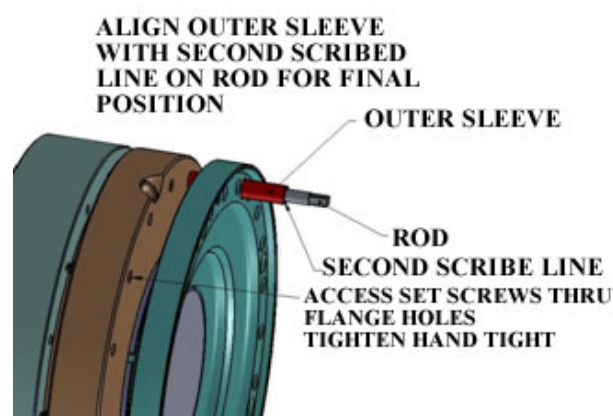

Figure 5b - Setting Final Position
2.4.12 Apply more hydraulic pressure. The HTC halves will separate causing the outer sleeve of the tool to move towards the second scribe line on the rod. When the outer sleeve is aligned with the second scribe line as shown in figure 5b, stop the hydraulic pump while holding pressure. This is the final position of the clamp. Hold hydraulic pressure here for the next step.
2.4.13 Tighten the eight retention screws (socket head set screws) hand tight with a hex wrench. The screws are accessed through the flange face as shown in Figure 5b.
5.4 Connect the hydraulic pump and slowly apply pressure while attempting to loosen one of the retention set screws. The retention set screws are accessed thru the face of the flange as shown in Figure 5b. As soon as the screw is free to rotate stop the pump.